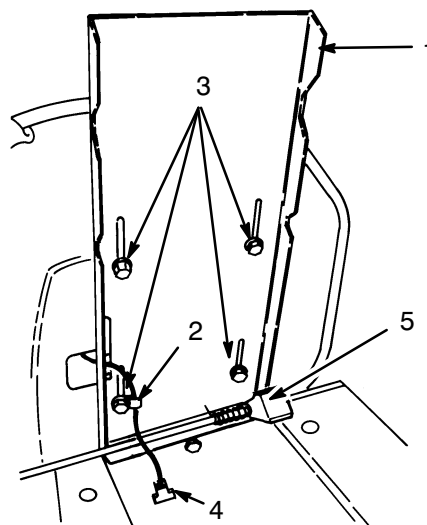

Figure 2
1. Position seat onto seat base, inserting the seat switch cable through the slot and aligning the mounting holes (Fig. 2).
2. Slide wire clamp over seat switch wire (Fig. 2).
3. Using left front mounting slot in seat base, loosely secure wire clamp and seat to seat base with a capscrew and lock washer (Fig. 2).
4. Mount seat to seat base with (3) remaining capscrews and lock washers.